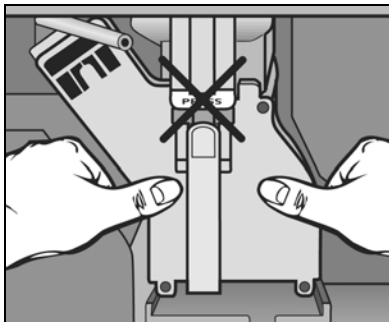

Figure 5-23: Brew Unit Installation
9. Push the brew unit straight into the track, without pressing "PRESS", until it clicks into place. See Figure 5-23.